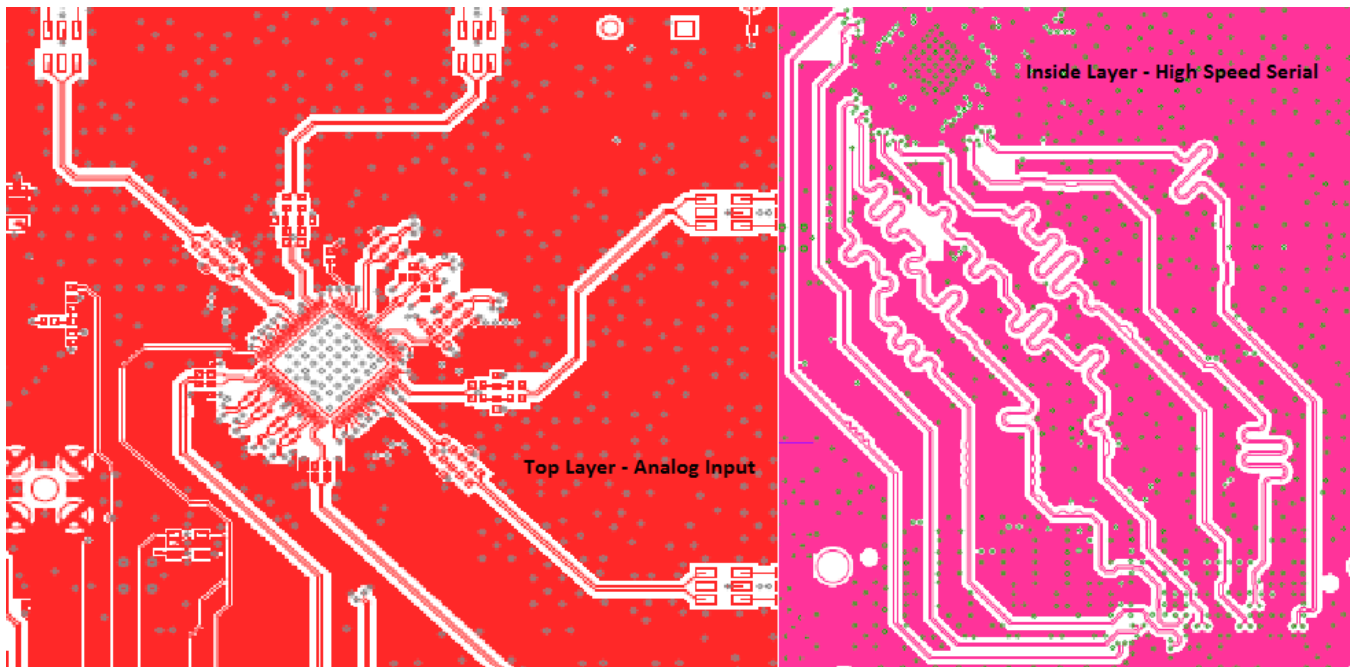

图 107. Top and Bottom Layers
The Device EVM layout can be used as a reference layout to obtain the best performance. A layout diagram of the EVM top layer is provided in Figure 107. Some important points to remember during laying out the board are:
- Analog inputs are located on opposite sides of the device pinout to ensure minimum crosstalk on the package level. To minimize crosstalk on-board, the analog inputs should exit the pinout in opposite directions, as shown in the reference layout of Figure 107 as much as possible.
- In the device pinout, the sampling clock is located on a side perpendicular to the analog inputs in order to minimize coupling between them. This configuration is also maintained on the reference layout of Figure 107 as much as possible.